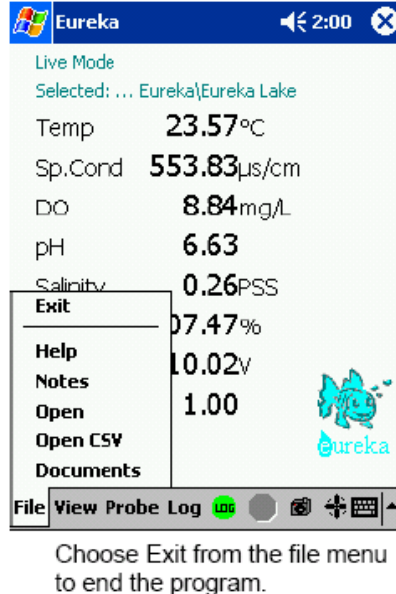

Figure 11.2. Eureka logging display.
- a. If groundwater is sampled instead of surface water, bail the well using a Solinst® Point Source Bailer (outer diameter = 25.4 mm, capacity = 190 ml) (Figure 11.2). Lower the bailer into the well to collect and bail all standing water from inside of the well.